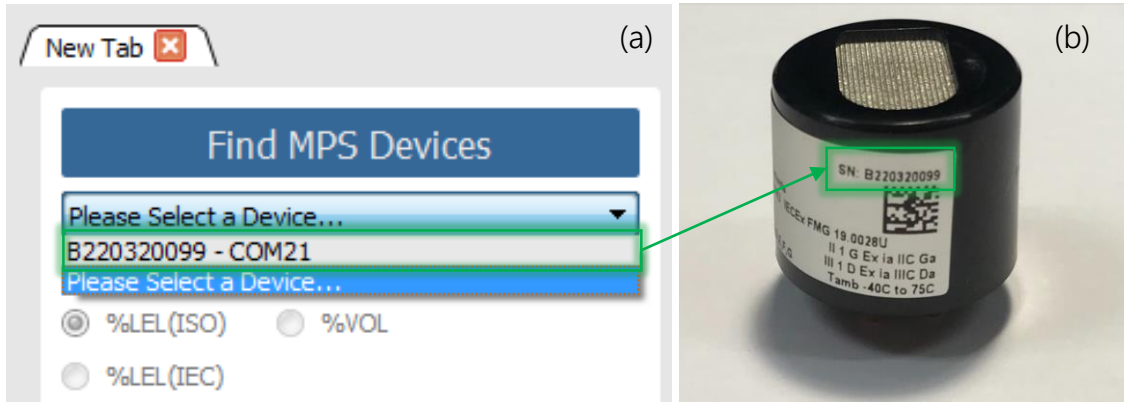

Figure 4 – (a) Selecting the active MPS™ Flammable Gas Sensor. (b) Device serial number
6. Click the "Find MPS Devices" button and select the MPS Flammable Gas Sensor connected to the computer (Figure 4). The sensor name is found on the sensor serial number in the form: Bxxxxxxx.